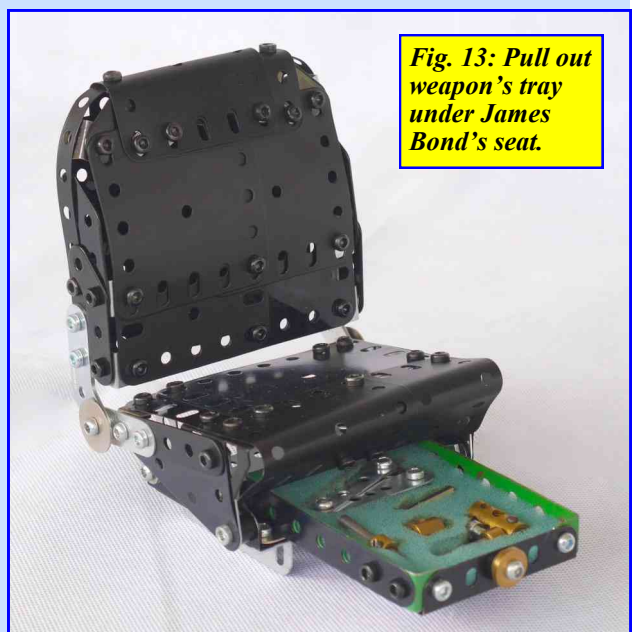

Fig. 13: Pull out weapon’s tray under James Bond’s seat.
8. Weapons tray: Under James Bond’s seat there was a weapons tray containing his tools of trade: a Mauser revolver with silencer, a rifle stock, a knife, and a hand grenade. All items were fibreglass in the *Goldfinger* DB5. My weapons are Meccano, of course, resting in a sponge rubber layer within a 3½” by 2½” flanged plate tray which slides forward from under the seat (Fig. 13).